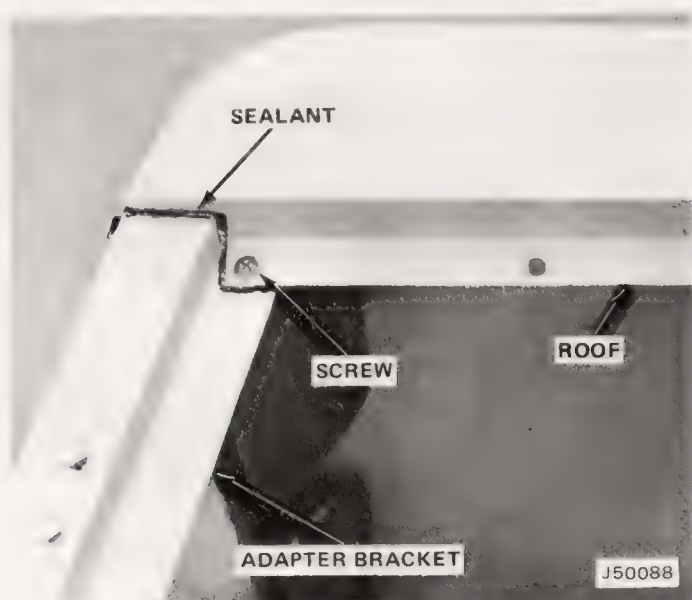

Fig. 2-20 Adapter Bracket Installed
(5) Check position of roof and quarter panels on body then tighten all bolts and nuts.
(6) Use hole in top of each hinge post adapter bracket as guide and drill 13/64-inch holes through each door opening flange. Fasten adapter brackets to roof with screws and locknuts and apply sealant around joint (fig. 2-20).
(7) Latch windshield and adjust latches, if necessary, to allow complete engagement. Tighten windshield hinge attaching screws.